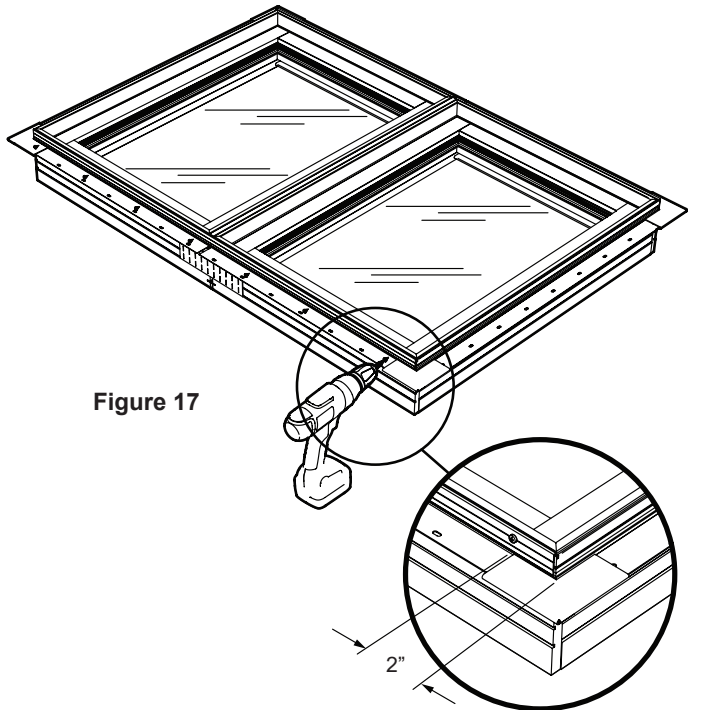

Figure 17
4. Use 3/8" self tapping pan head screws (supplied) to fasten the mull cover to the frame. Start a screw 2" from each end and space the remaining screws 8-10" apart. This completes the optional spread mull cover installation. (Figure 17)